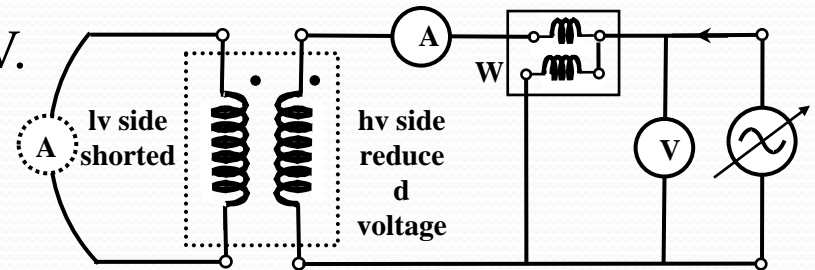

Figure 4.30 Connection diagram for short circuit (SC) test
- This test is carried out to determine the series parameters r_e , and x_e of the transformer. The connection diagram of the test set-up is shown in Figure 4.30.